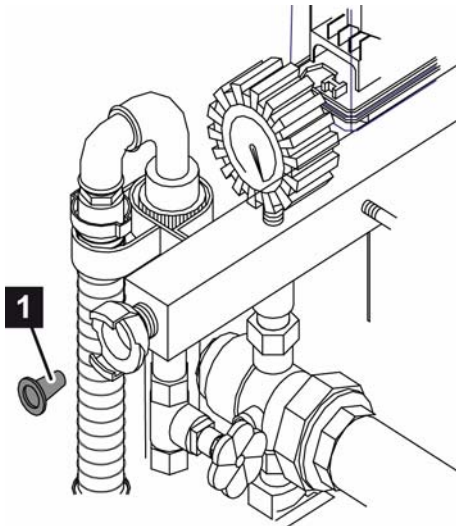

Fig. 63: Brass sieve in the water inlet
1. Take the brass sieve (Fig. 63/1) out of the water inlet.